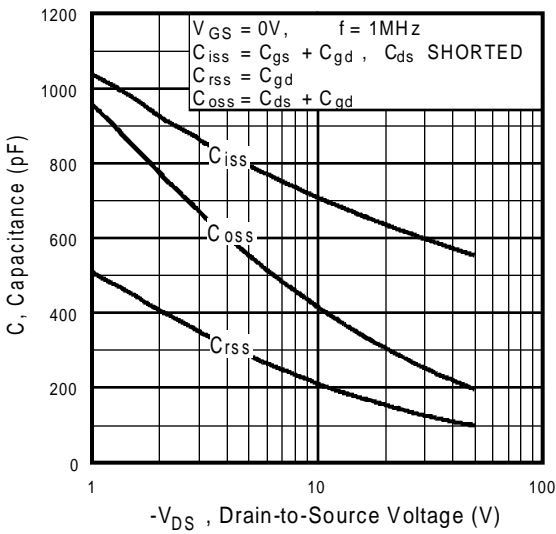

Fig 5. Typical Capacitance Vs. Drain-to-Source Voltage
| C_{rss} | Reverse Transfer Capacitance | — | 140 | — | | $f = 1.0MHz$, See Fig. 5⑤ |